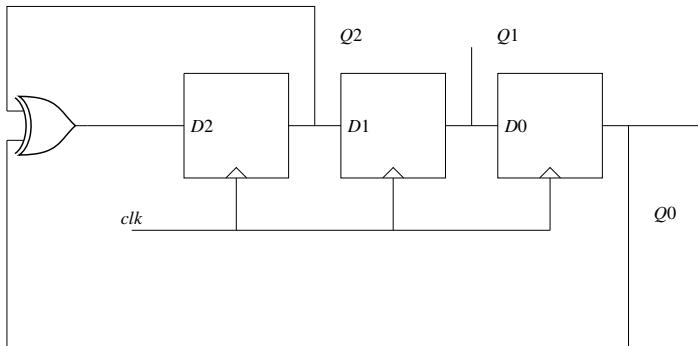

Fig. 5.3: Propagation Delay
3. The Clock (clk) frequency provided to the circuit in Fig. 5.3 is 500 MHz.